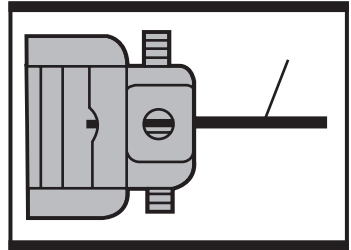

Fig.F2
Loosen the other setscrew just enough to slide one adaptor onto each end of the blade (6) as shown. **(Fig.F2)**